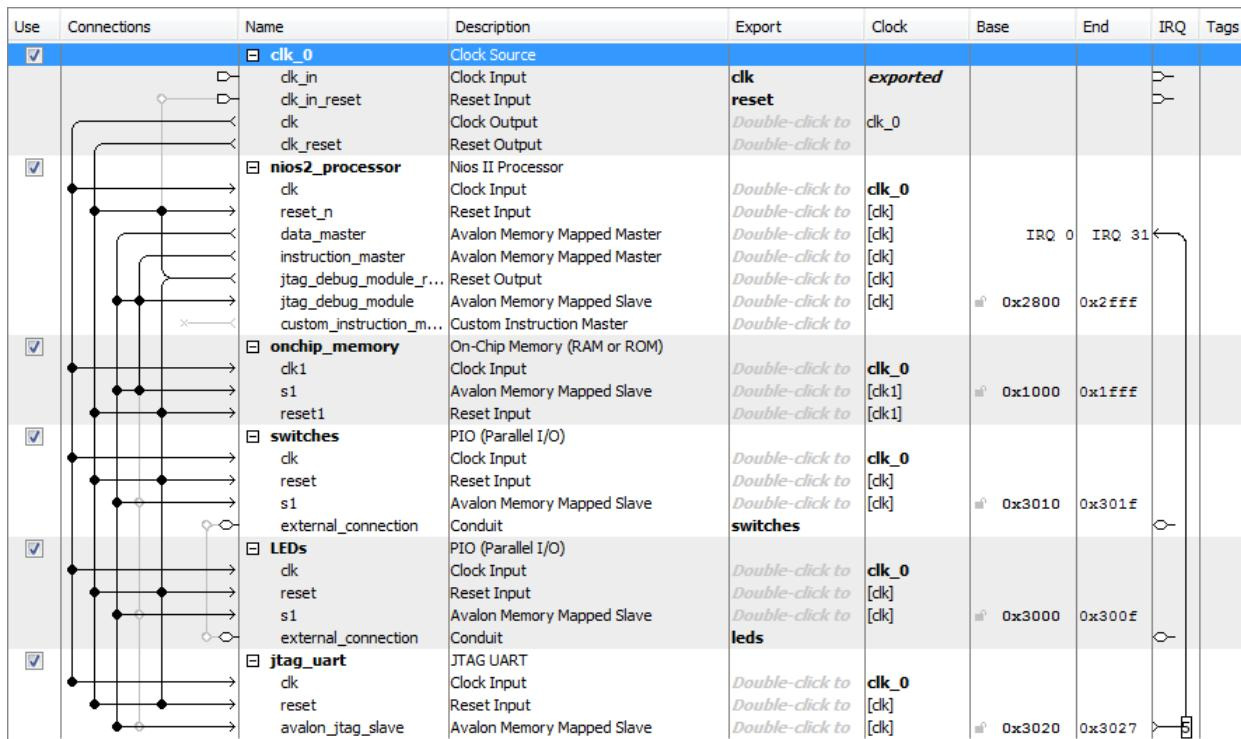

Figure 19. The complete system.
14. So far, we have specified all connections inside our *nios_system* circuit. It is also necessary to specify connections to external components, which are switches and LEDs in our case. To accomplish this, double click on **Double-click to export** (in the Export column of the System Contents tab) for **external_connection** of the switches PIO, and type the name *switches*. Similarly, establish the external connection for the lights, called *leds*. This completes the specification of our *nios_system*, which is depicted in Figure 19.